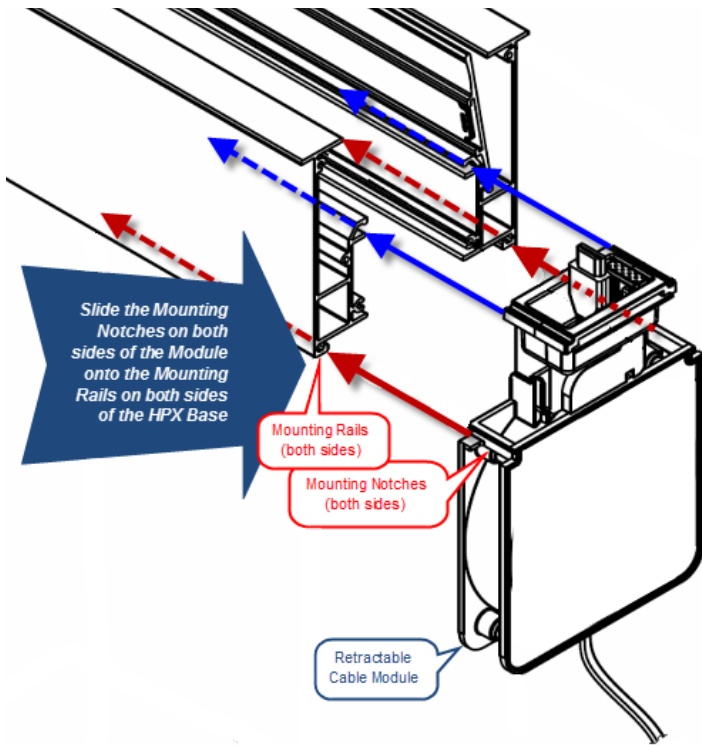

FIG. 6 RETRACTABLE CABLE MODULE - MOUNTING INTO AN HYDRAPORT BASE ASSEMBLY
1. Orient the module relative to the HydraPort base assembly so that the Module's faceplate is facing up, towards the mounting surface (FIG. 6).